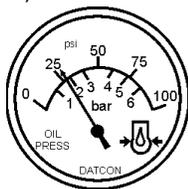

Figure 45. Oil Pressure Gauge
9. The engine oil pressure gauge (Figure 45) will indicate the oil pressure of the engine. Under normal operating conditions the oil pressure is approximately 28 to 85 psi. (193~586 kPa).